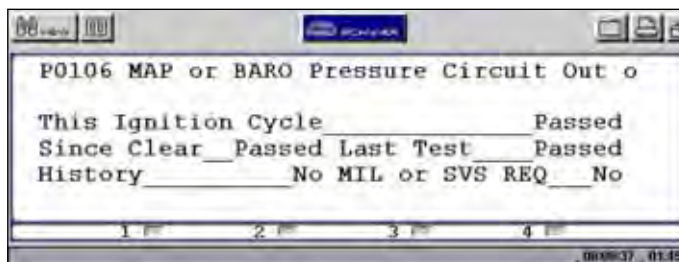

Figure 5-10 Sample DTC Status screen
9. Press **Y/a** and the status of the selected DTC displays (Figure 5-10).